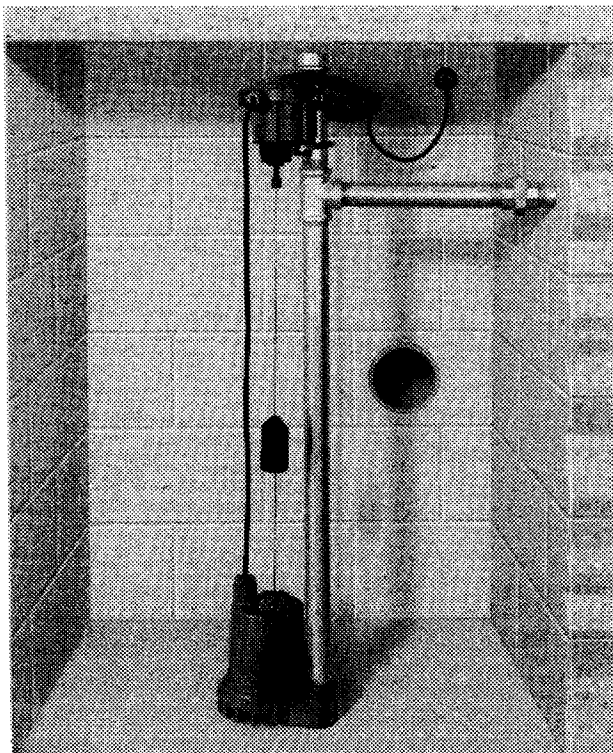

FIG. 3
MOUNTING—The AWS-1 switch is mounted on discharge pipe or on an extension of the discharge pipe as shown in Fig 3, with stainless clamp supplied.
Allow enough extra power cord so that pump and control can be lifted from sump after union is disconnected without disconnecting wires in box. This allows connection box to be opened and connection made out of sump where working is easier. The excess power cord is coiled and taped to top of pipe or connection box. See Fig 3.
1. Install pump and switch as per Fig 3.